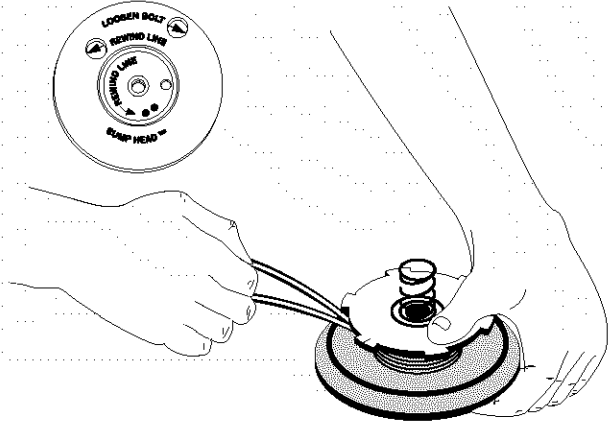

Fig. 15
7. Wind the lines in tight even layers, onto the reel (Fig. 15). Wind the line in the direction indicated on the inner reel. Place your index finger between the two lines to stop the lines from overlapping. Do not overlap the ends of the line.